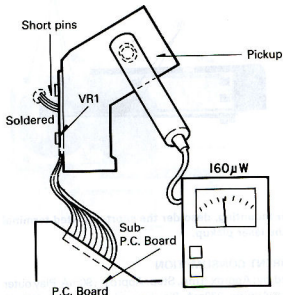

Figure 3
- (2) Insert the pickup Flexible P.W. Board into the socket of the Sub-P.C. Board.
- (3) Remove the pickup shorting pin by unsoldering with the soldering iron. (Figure 3)
- (4) Connect the DC supply, turn the power switch S608 on, and push the PLAY switch.
- (5) Apply the laser power meter sensor to the pickup lens and adjust VR1 on the pickup arm so that the meter indicates $160\mu\text{W}$.